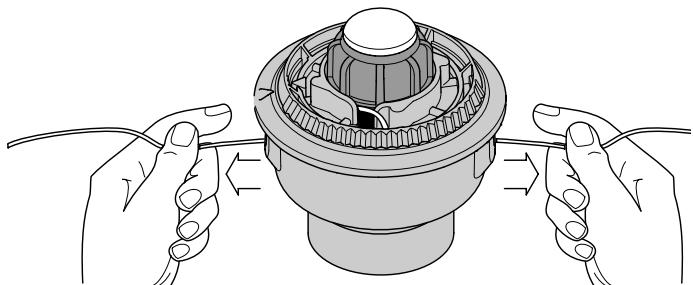

Fig. 46
- If winding the line becomes difficult or if the line jams, pull the ends of the line from the spool (Fig. 46). Continue winding the inner reel counterclockwise until approximately 6 inches of line is left.
If the SpeedSpool® does not release line correctly, pull the ends of the line firmly from the spool (Fig. 46). If this does not release line, follow the *Cleaning the SpeedSpool®* instructions.